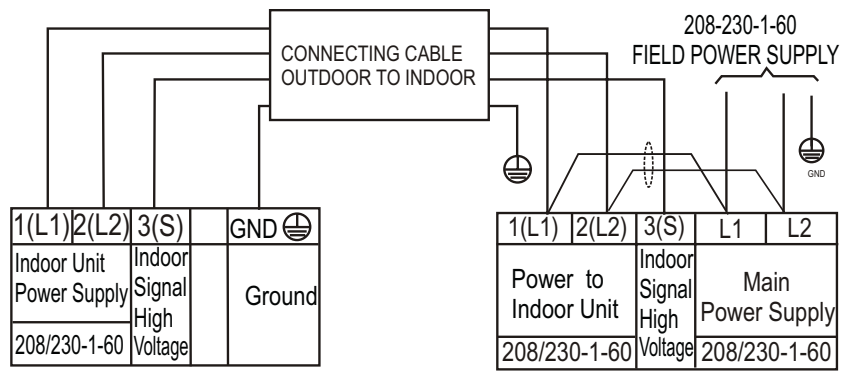

Fig. 8 — Size 24K Indoor Unit
2. All connections between the indoor and outdoor units must adhere to the connections shown in figures 8 - 9. The connections are polarity sensitive and **improper wiring results in a fault code**.